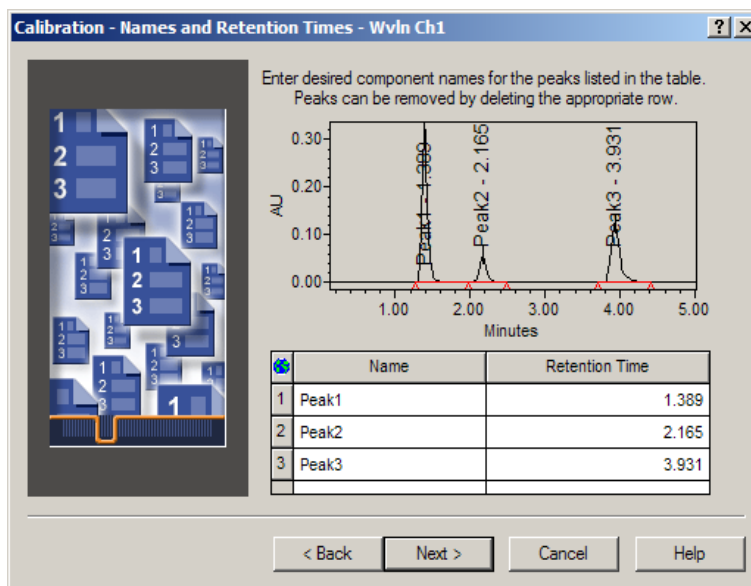

Figure 3-12 Names and Retention Times Page
9. Accept the default settings and click **Next**. A message indicates that channels require channel names in order to perform cross-channel internal standard processing. Click **No** in this dialog box. The Names and Retention Times page appears (Figure 3-12).